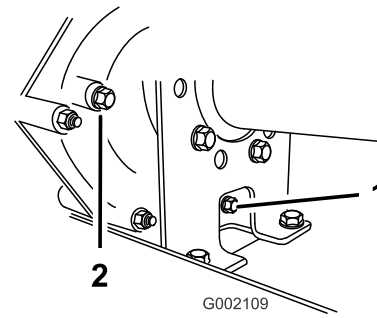
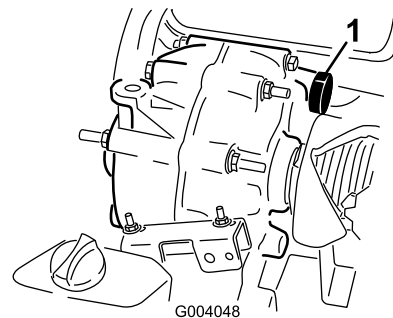

Figure 43
Figure 44
2. Wipe the area around the fill and drain plugs clean with a rag (Figure 43).
4. Remove the fill plug by rotating it counterclockwise (Figure 43).
5. Remove the drain plug by rotating it counterclockwise (Figure 43).
6. Install and tighten the drain plug and gasket into the drain-plug hole of the transmission (Figure 43).
7. Fill the reservoir (Figure 44) through the fill-plug hole with approximately 1.4 L (1.5 US qt) of the specified fluid or until the fluid level in the transmission is even with the bottom of the threads. (Figure 43).
8. Install and tighten the fill plug and gasket into the fill-plug hole of the transmission (Figure 43).
10. Check the fluid level and add more fluid if the level is below the threads of the fill-plug hole (Figure 43).